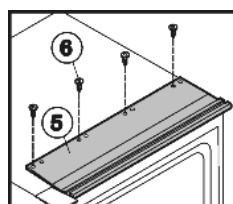

Fig. 29
- Screw on the upper installation contour Fig. 29 (5) by means of four screws Fig. 29 (6) inserted through the pre-cut holes in the profile and appliance.